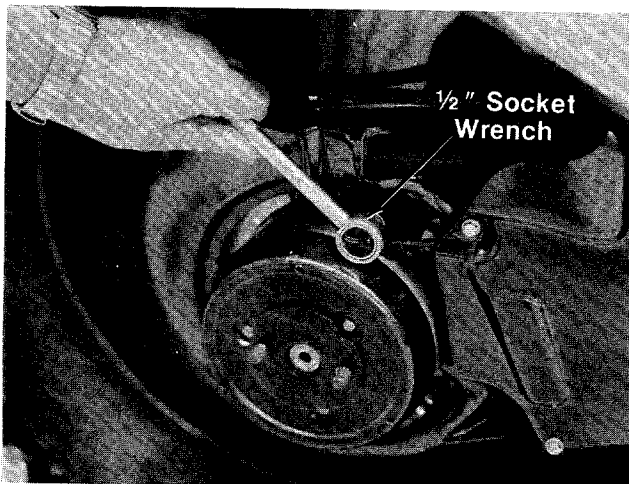

FIGURE 29.
9. Support the engine with one hand. Remove the three self-tapping screws which secure the deck and blade brake/clutch to the engine. A 1/2" socket wrench is required. See figure 29.